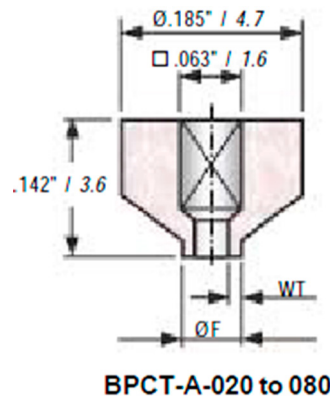

Figure 25. Nozzle tip dimension from Small Precision Tools.
1. Die attach collet selection. Since the top of the LUXEON FlipChip is covered with silicone overmold (Shore A hardness of 80), the nozzle tip selected should not damage the silicone overmold and prevent LUXEON FlipChip from sticking to the nozzle tip. Lumileds has successfully tested a nozzle from Small Precision Tools (SPT), part number BPCT-A-030-AS which is made of a thermoplastic elastomer (with Shore A hardness of 88) with anti-stick coating (see Figure 25). This nozzle has an outer diameter ($\varnothing$ F) of 0.76mm and wall thickness (WT) of 0.13mm. This nozzle has been used successfully with both LUXEON FlipChip configurations.